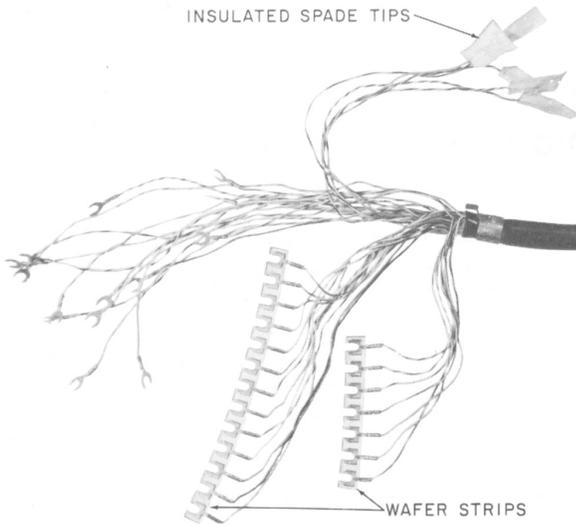

Fig. 1—Slotted Wafer Strip End of Mounting Cord
2.05 The 565LK-type set uses a mounting cord which features a slotted wafer strip (Fig. 1) to facilitate replacement.